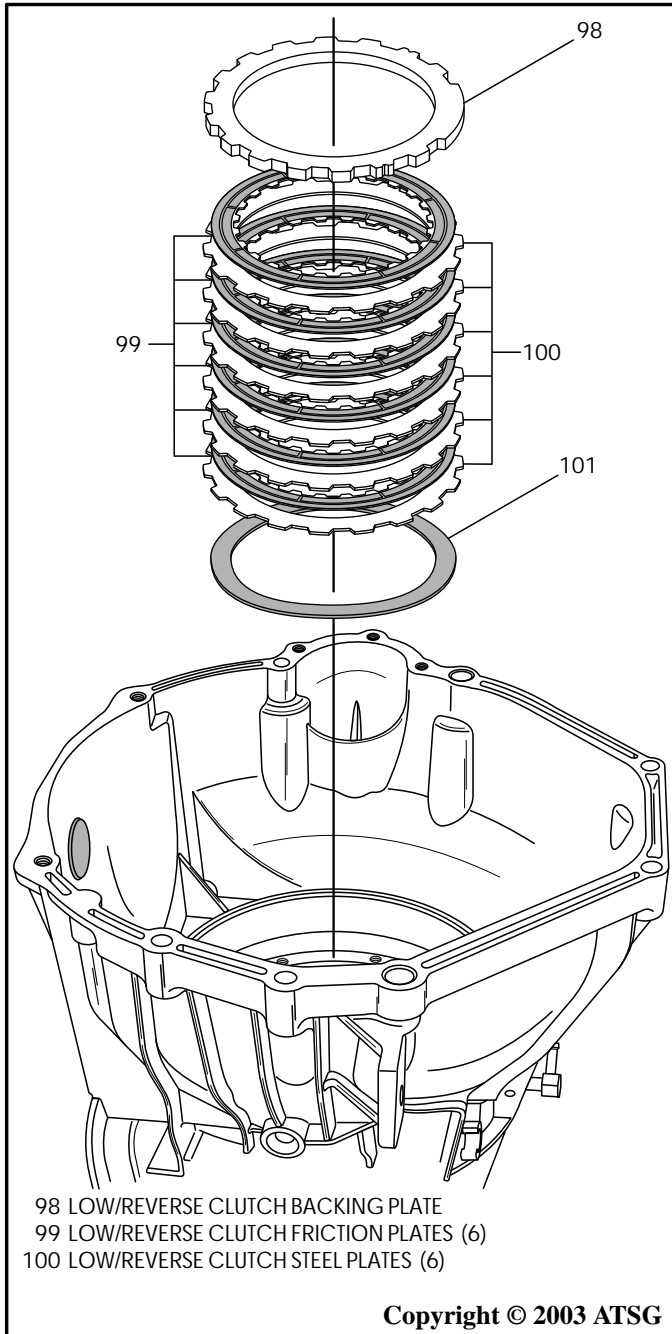

Figure 73
29. Remove the low/reverse clutch pack including wave plate, as shown in Figure 73.